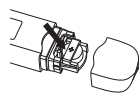

Figure 4
3. Gently pull out plastic circuit board with battery chamber approximately 1 cm (slightly less than 1/2 in.) (See Figure 4)